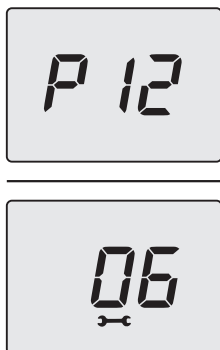

Figure 5.47
- Press the 14 key for 1 second (Figure 5.43) to enter the selected parameter. The display will show the following (Figure 5.47).